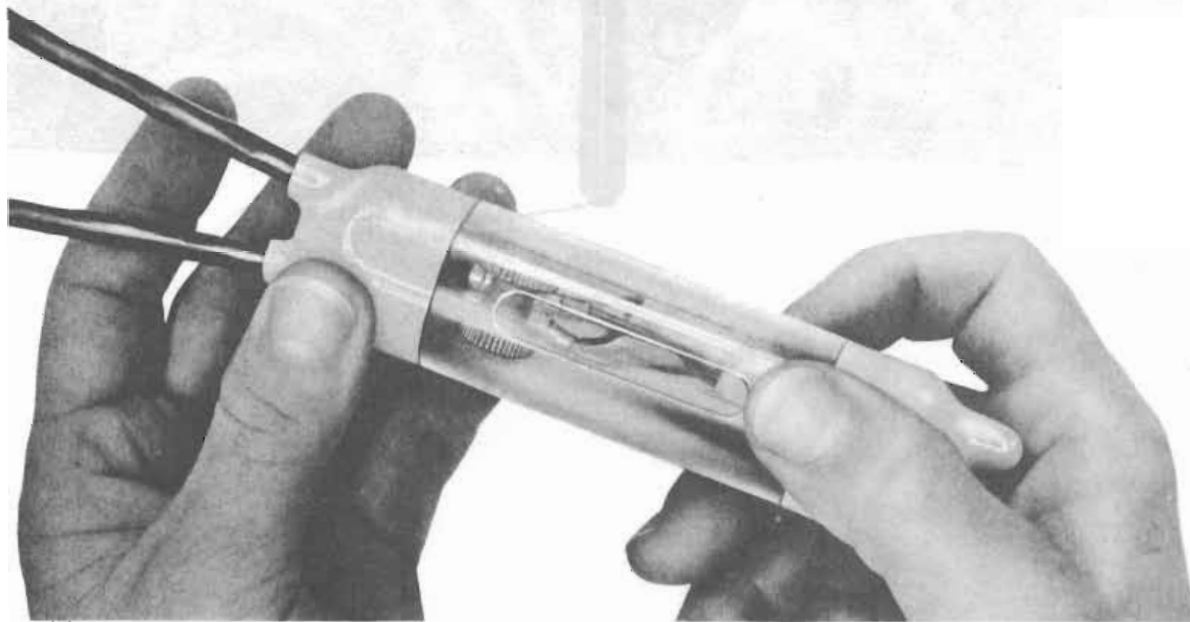

Fig. 33—Rotating Outer Tube to Seal Closure
(10) Rotate the outer tube to close the filling slot (Fig. 33).